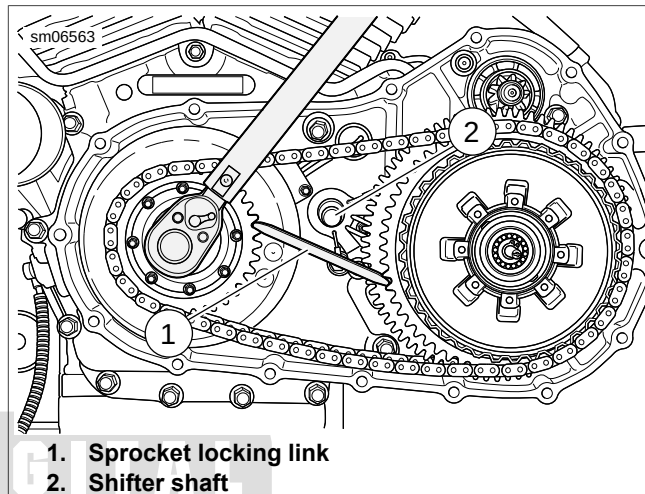

Figure 5-15. Tighten Engine Sprocket Fastener (typical)
See Figure 5-15. Do not position the sprocket locking link too close to the shifter shaft (2). If the sprocket locking link contacts the shifter shaft while tightening the engine sprocket nut, the shifter shaft and/or the engine crankcase may be damaged.
- See Figure 5-15. Install the sprocket locking link.